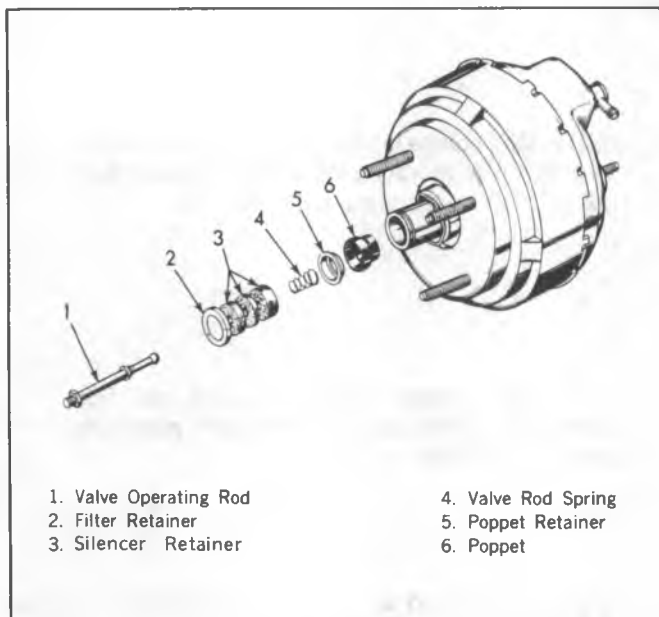

Fig. 5C--Removing Valve Operating Rod, Retainer, Filters and Poppet
9. Remove valve rod spring, poppet retainer and valve poppet from hub of rear diaphragm plate (fig. 5C).